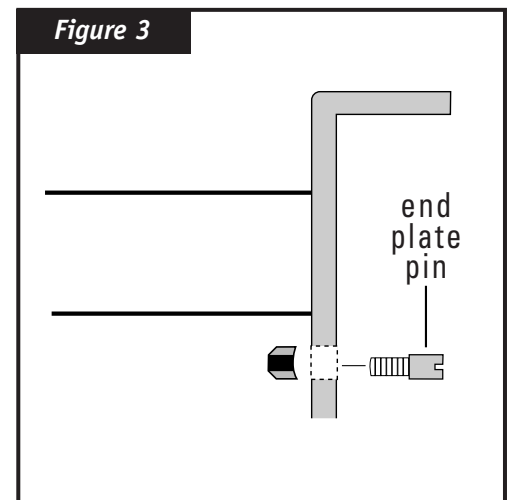

Figure 3
1. Install one End Plate Pin (**E**) in each End Plate (**D**) as shown in figure 3.